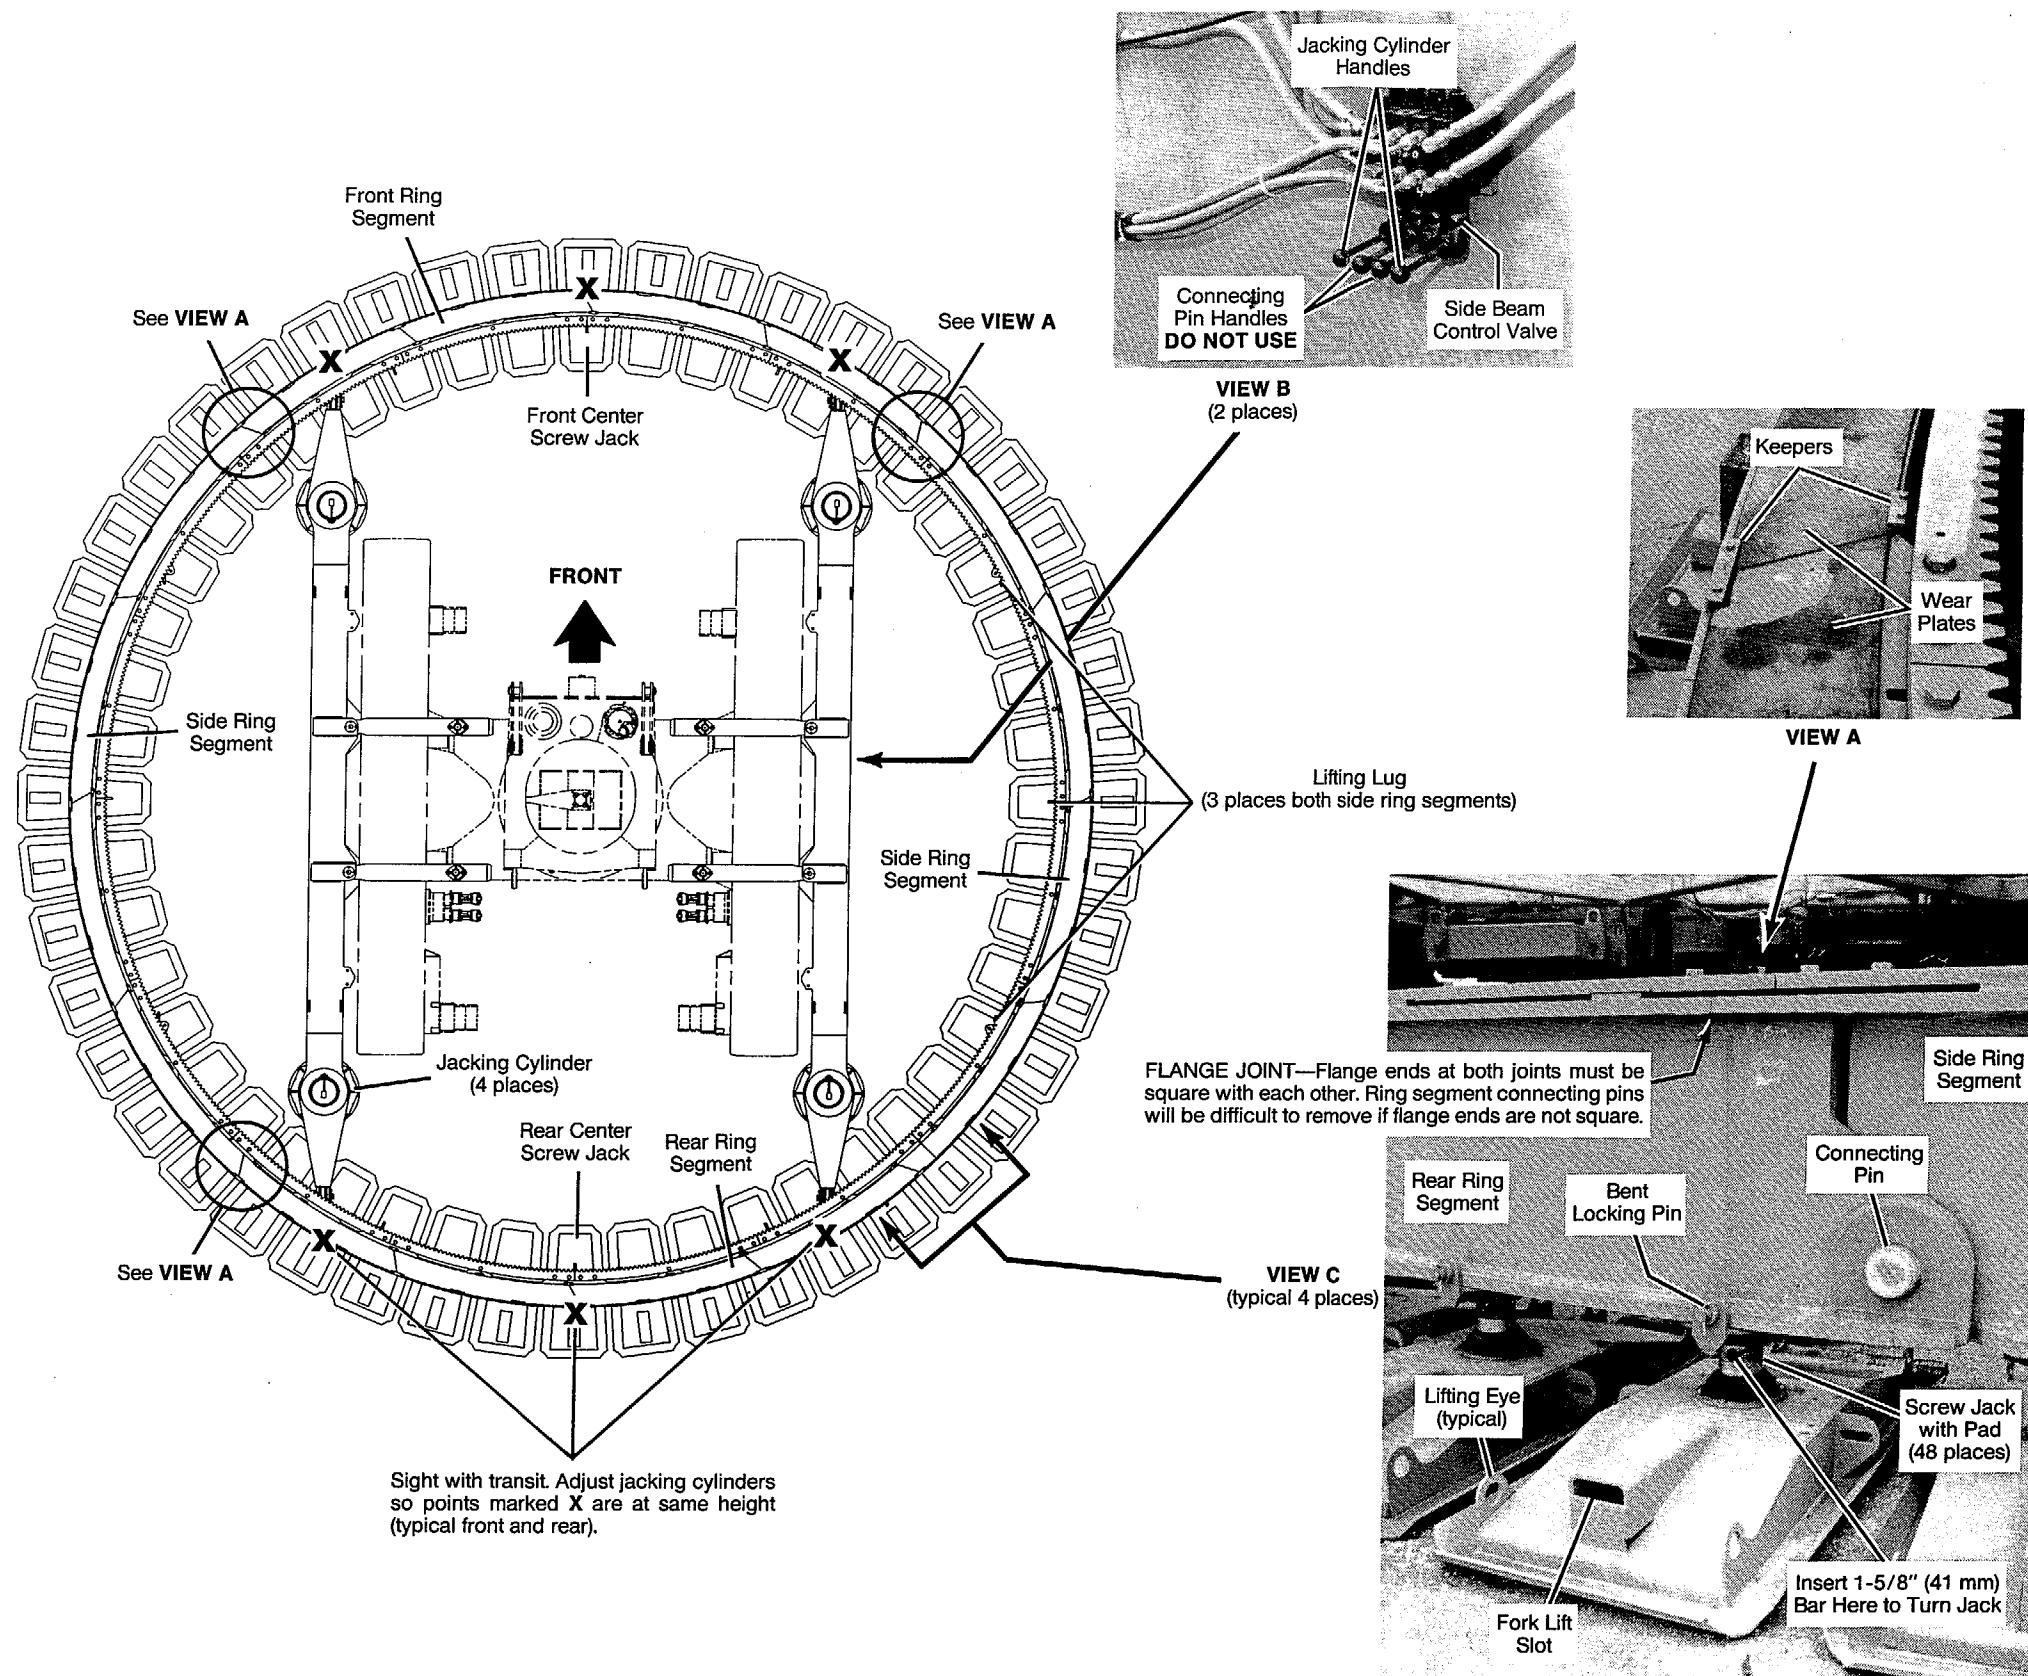

FIGURE 5 RING ASSEMBLY
- a) Look at flange joint between side and front/rear ring segments (View C, Figure 5).
- a) Hook assist crane to three lifting lugs (Figure 5) on side ring segment.
Then remove all screw jacks and pads from front and rear ring segments (View C, Figure 5).
4. Raise ring—extend jacking cylinders—using outer two handles at side beam control valves (View B, Figure 5) so there is enough room under ring to install front and rear screw jacks.
Adjust rear jacking cylinders so center and both ends of rear ring segment (locations marked X in Figure 5) are at same height.
13. Install remaining screw jacks and pads (View C, Figure 5).
16. Install and securely tighten wear plate keepers at four locations shown in View A, Figure 5.